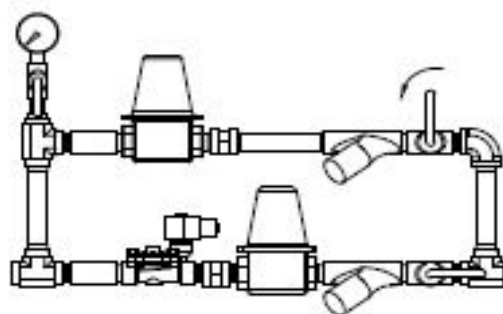

Figure 4-1 Fire pump drive engine bypass valve
1. As shown in Figure 4-1, open the water bypass valves in the cooling water supply piping or the emergency cooling supply.